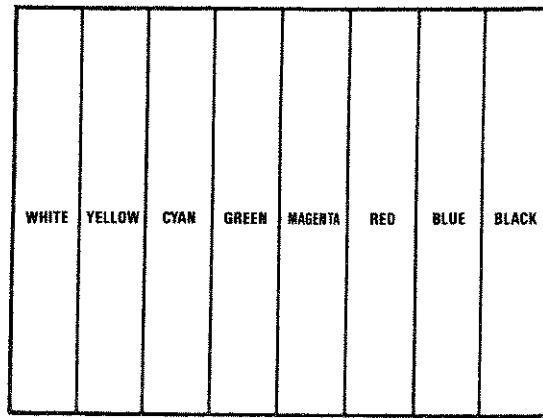

Figure 5.1
5.1.1 Full-field Color Bar Pattern (See Figure 5.1 and 5.2)